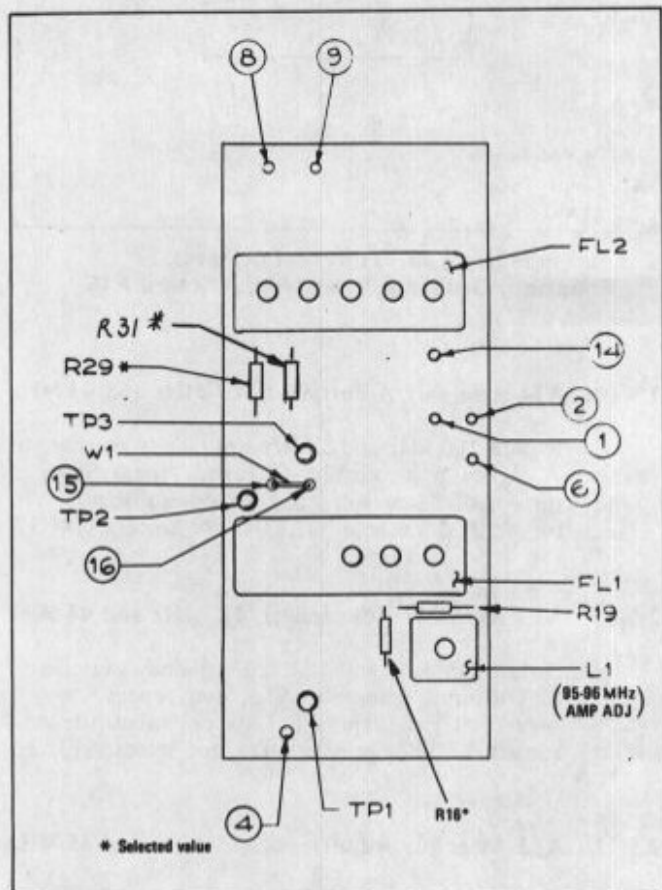

Figure 2-12. Trimmer Locations, 1 MHz Decade Assembly, A6
- Connect the RF voltmeter with a high impedance probe to terminal A6-4. (See Figure 2-12)
- a. Withdraw assembly A6 and connect oscilloscope 10X probe to A6-6 (5 MHz to 6 MHz input). Voltage should be approximately 2.5 V p-p. (See Figure 2-12)